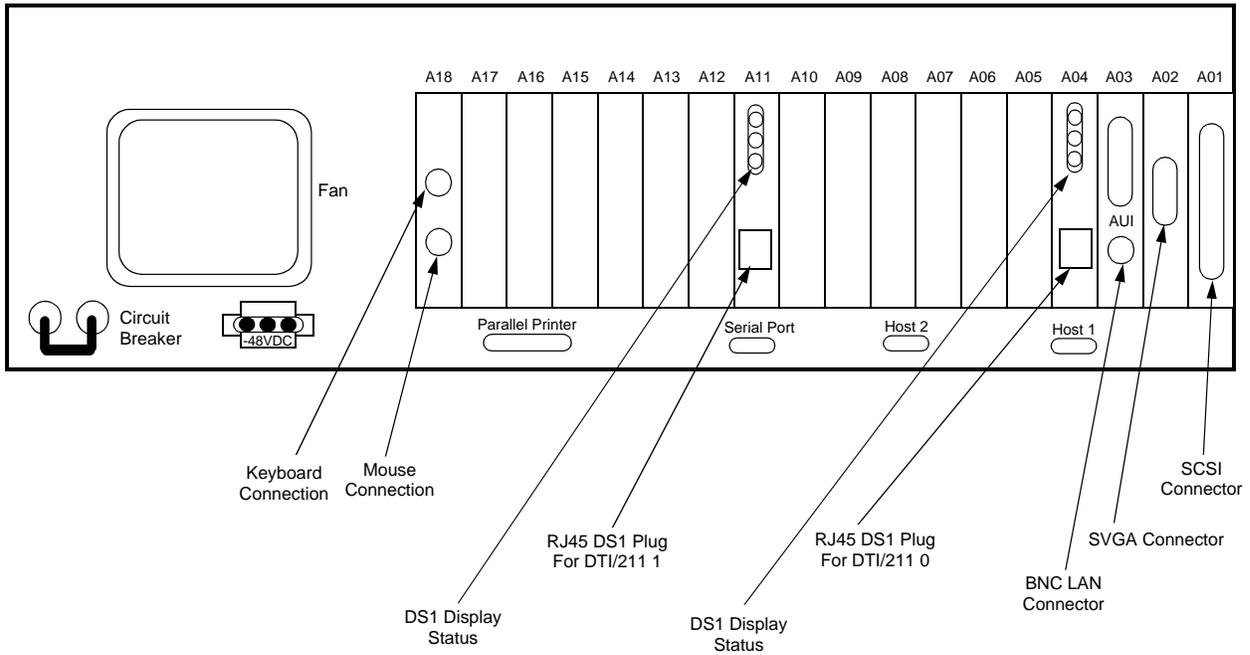

Figure 13. CDSU-I (Rear View)
- CDSU-I (Rear View) (Figure 13)